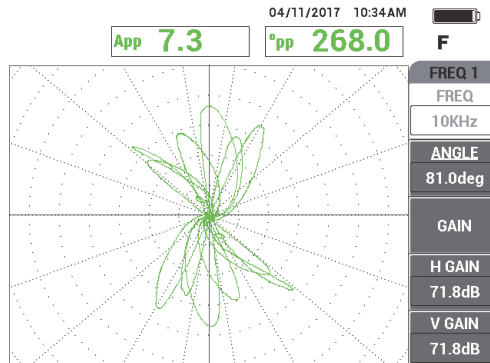

Figure 5-165 The tube scan between the support ring and the thru-wall hole
10. Scan the tube between the support ring and the 1.3 mm (0.052 in.) thru-wall hole to verify the frequency 1 calibration (see Figure 5-165 on page 244).